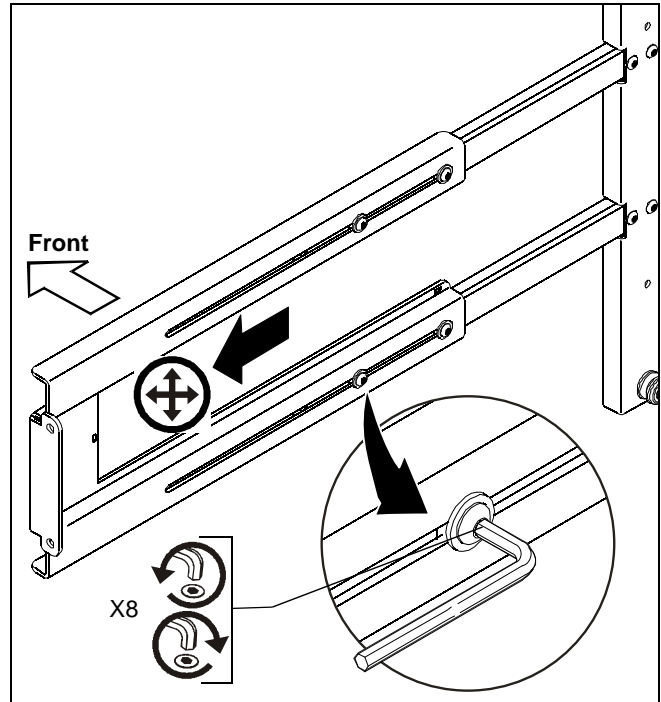
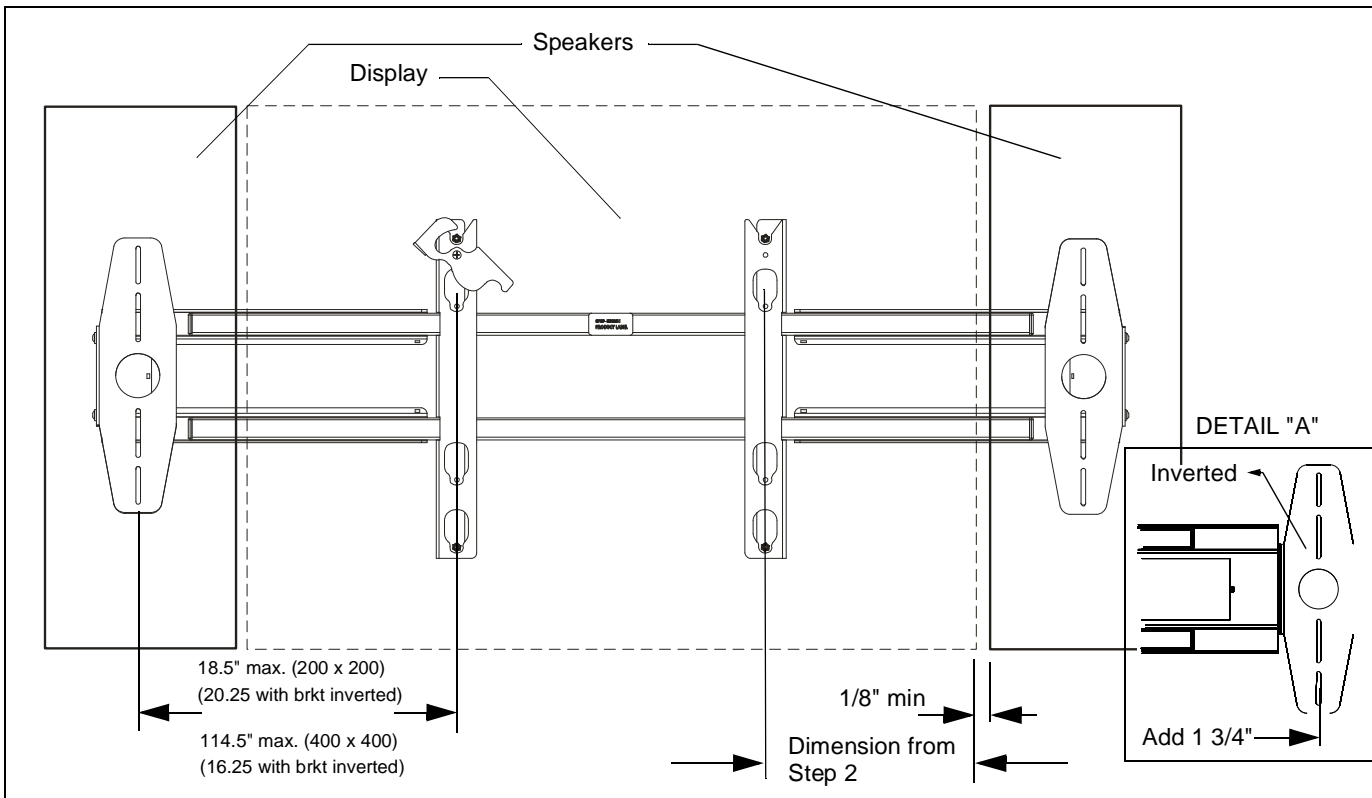

Figure 5
Figure 6
3. Loosen eight button head cap screws and slide speaker rails outward until required distance between speakers is obtained. (See Figure 5) and (See Figure 6)
**NOTE:** An additional 1 3/4" (each end) of speaker rail extension can be obtained by inverting the speaker mounting bracket as shown in DETAIL "A" in figure below. (See Figure 6)